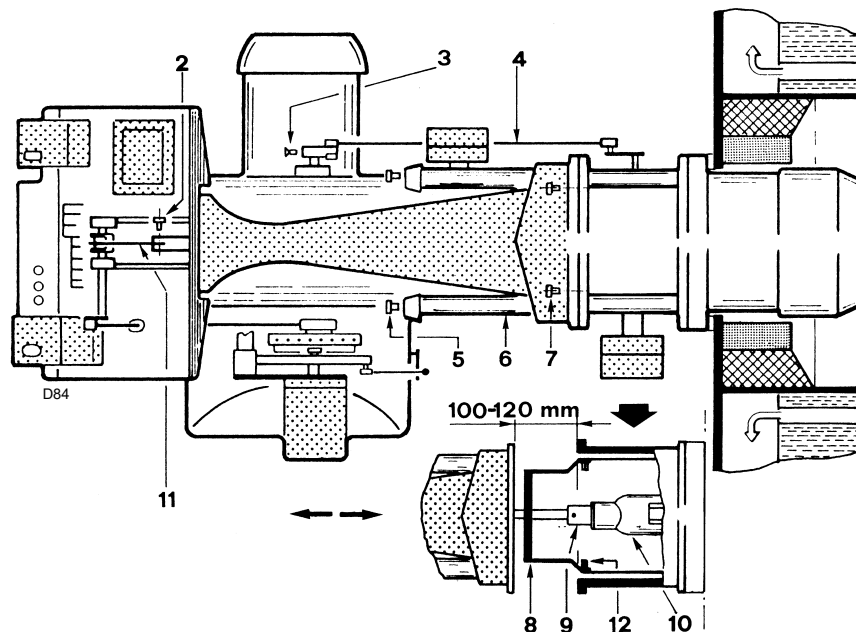

Fig. 36
- Remove the screws 7)(Fig. 36) retaining the fan 3) to the coupling 4).